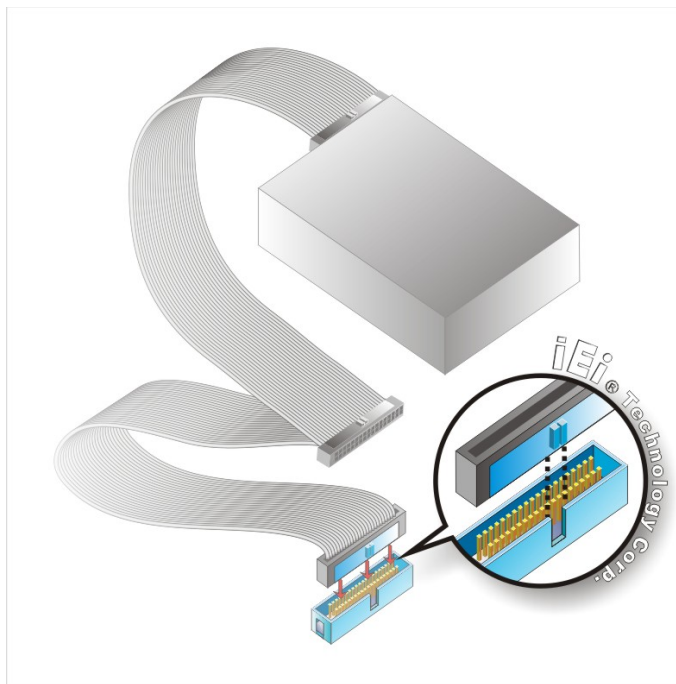

Figure 5-7: IDE Cable Connection
Step 2: Insert the connector. Connect the IDE cable connector to the onboard connector. See Figure 5-7. A key on the front of the cable connector ensures it can only be inserted in one direction.